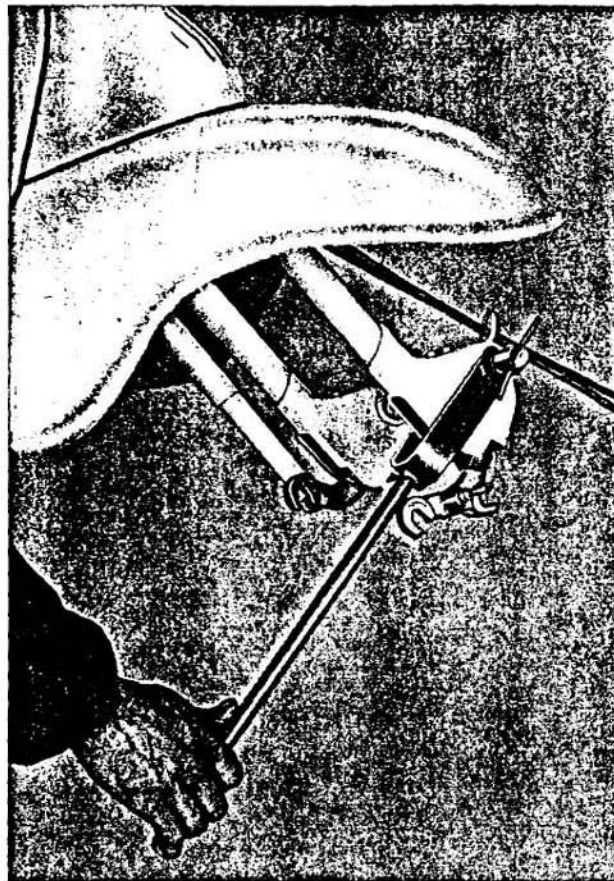

Fig. 36
- 65 To remove the trailing links; apply Tool No. 58021 and contract the suspension spring to remove the lever. See Fig. 36.